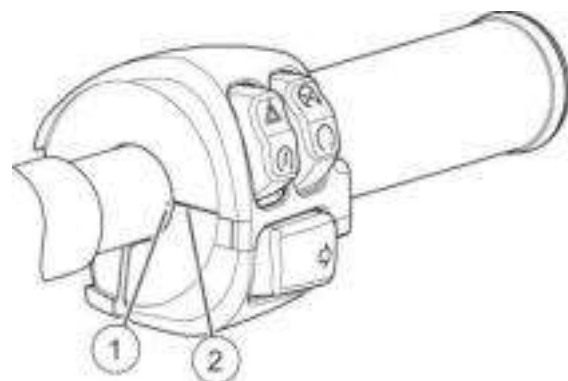

Figure 7-27. Hand Control Module Alignment (Typical)
5. See Figure 7-27. Install upper and lower switch housing. Align seam (2) with alignment mark (1).